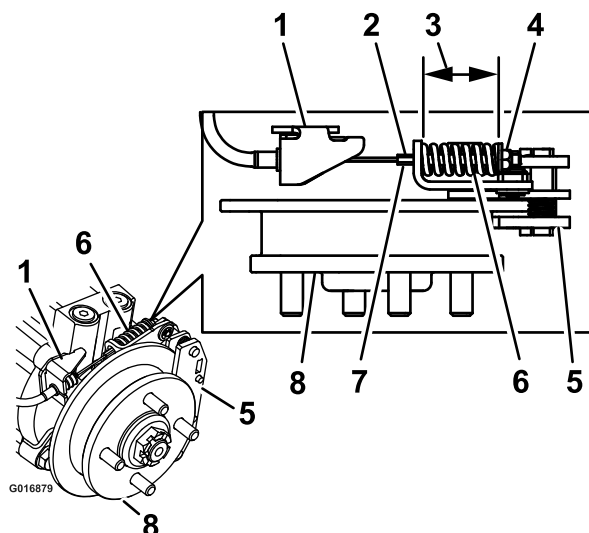

Figure 75
9. Hold the threaded-rod end with a tool, and adjust the locknut until the spring length is between 3.8 and 4.0 cm (1-1/2 and 1-9/16 inches) as shown in Figure 75.